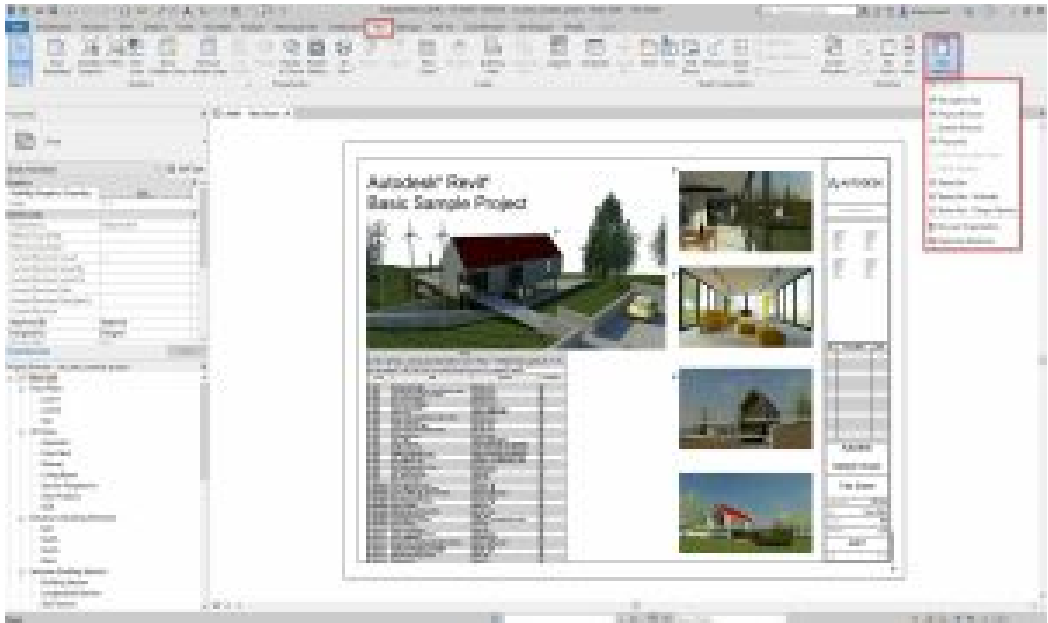

Figure 1.3 Customizing the User Interface
3. One at a time un-check and check each box to become familiar with the components and their names. For help, reference Figure 1.3
- Option 1: shown in Figure 1.3
- Option 1: shown previously in Figure 1.3